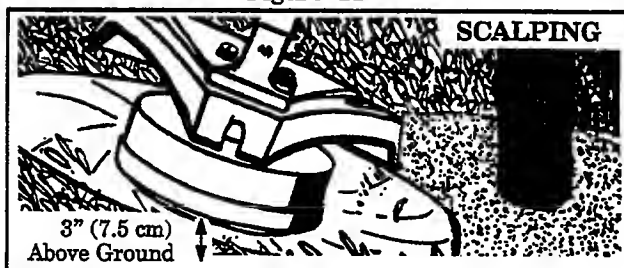

Figure 12
2. **SCALPING** - Figure 12. The scalping technique removes unwanted vegetation. Hold the bottom of the trimmer head about 3" (7.5 cm) above the ground and at an angle. Allow the tip of the line to strike ground around trees, posts, monuments, etc. *This technique increases line wear.*